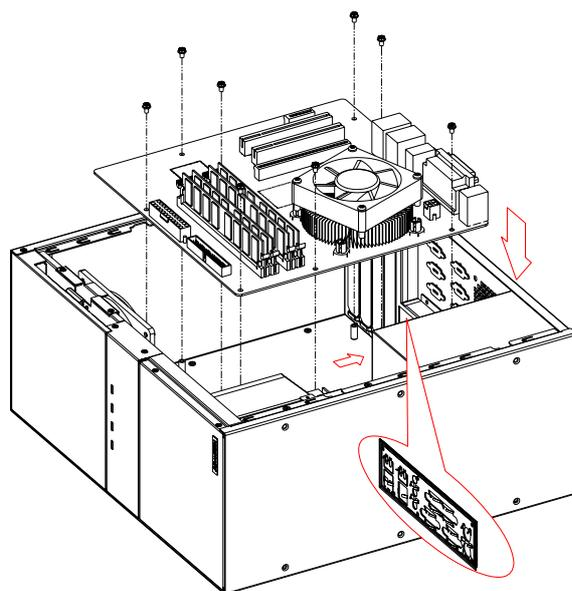

Figure 2.2 Installing a motherboard
1. While installing a MOTHERBOARD, firstly attach the motherboard I/O shielding onto the rear plate of IPC-5122 chassis. Then fasten the motherboard onto the chassis. (see Figure 2.2)